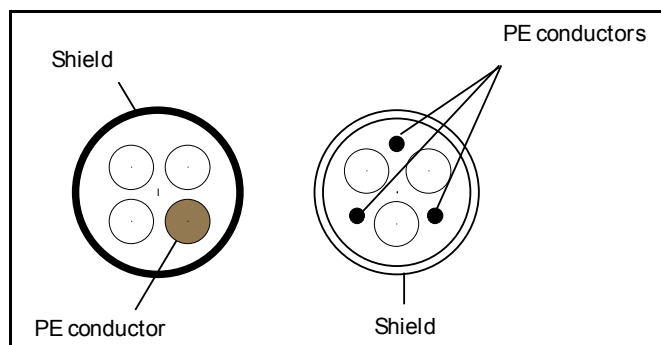

Figure 15.
- 2 = Symmetrical power cable equipped with concentric protection wire and intended for the specific mains voltage. (MCMK or similar recommended). See Figure 15.
- 3 = Symmetrical power cable equipped with compact low-impedance shield and intended for the specific mains voltage. [MCCMK, EMCMK or similar recommended; Recommended cable transfer impedance (1...30MHz) max. 100 mOhm/m]. See Figure 15.